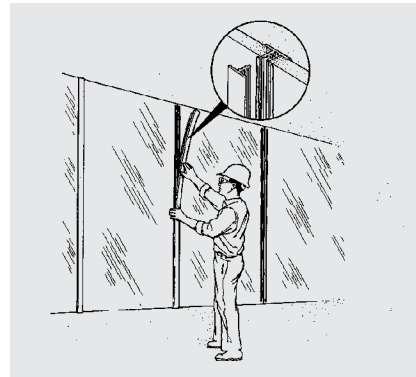

Figure 9
6. Apply a continuous bead of construction-grade caulk/ sealant along the vertical edges of the insulation boards, then position and press a PVC top "T" section in the PVC base strip until it snaps into place (Figure 9).